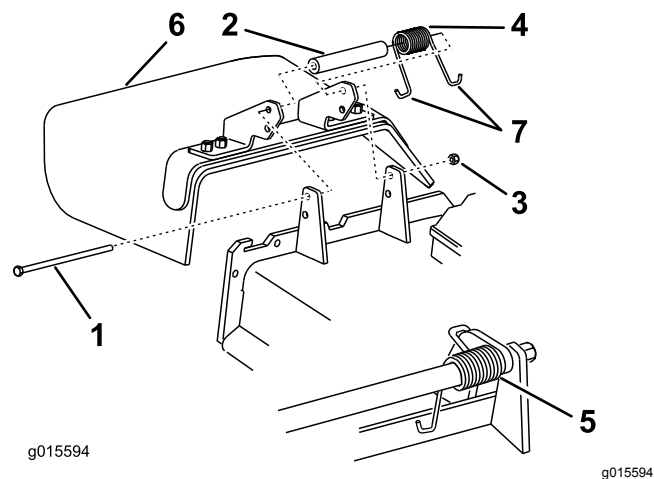

Figure 122
Note: Make sure that 1 J-hook end of the spring is installed behind the deck edge before installing the bolt as shown in Figure 122.
6. Place 1 J-hook end of the spring around the grass deflector (Figure 122).
1. Remove the locknut, bolt, spring, and spacer holding the deflector to the pivot brackets (Figure 122).
2. Remove the damaged or worn grass deflector (Figure 122).